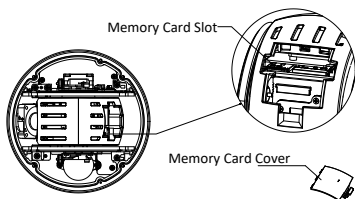
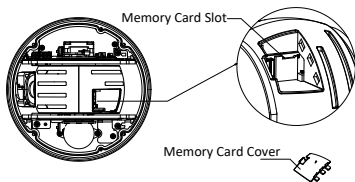

Figure 2-13 For 20x Camera Module
Figure 2-14 For 4× Camera Module
3. Open the memory card cover and insert the memory card into the card slot as shown in Figure 2-13 and Figure 2-14.